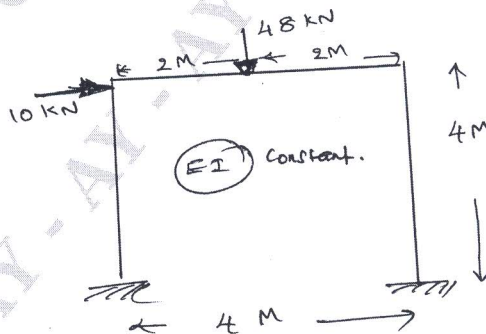

Fig.Q8
- 8 Analyze the frame shown in Fig.Q8 by direct stiffness method. Assume  $E = 200 \text{ GPa}$ ,  $I_{zz} = 1.33 \times 10^{-5} \text{ m}^4$ ,  $A = 0.01 \text{ m}^2$ . Flexural rigidity and axial rigidity are same for all members.